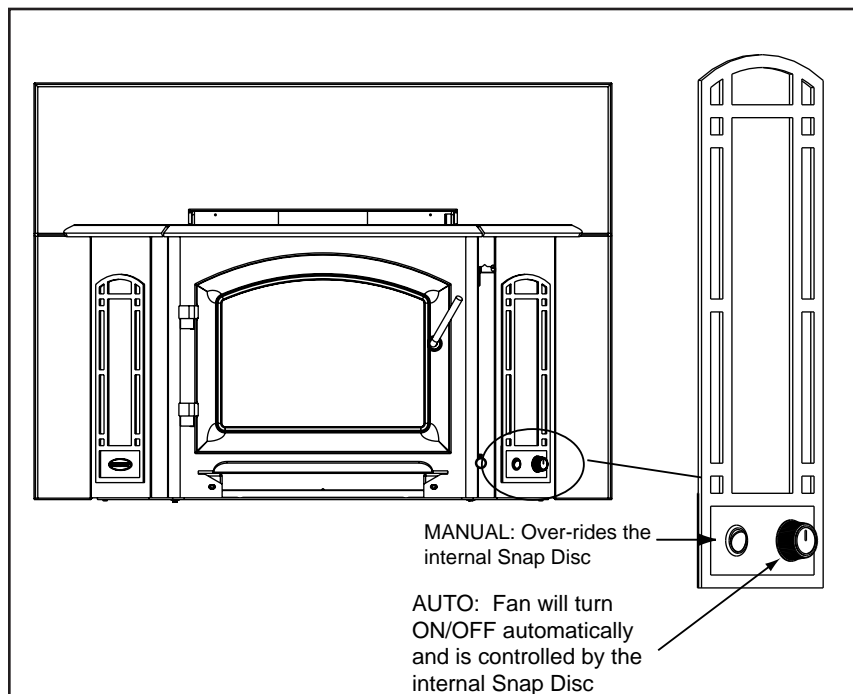

Figure 15.1
1. The blower will turn on/off automatically when set to AUTO. **Figure 15.1.**